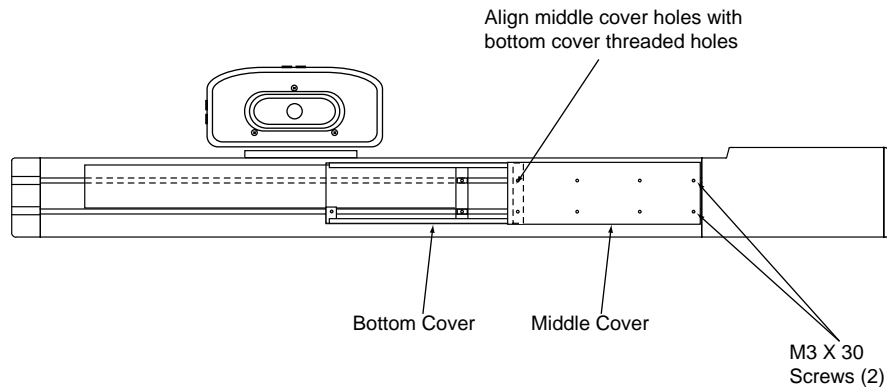

Figure 6-12. Alignment of the Cover Plates
3. Align the middle cover holes with the bottom cover threaded holes and secure to the M-Module with two M3 x 30 screws at the front of the middle cover (see Figure 6-12). This will also secure the bottom cover to the Y-axis.